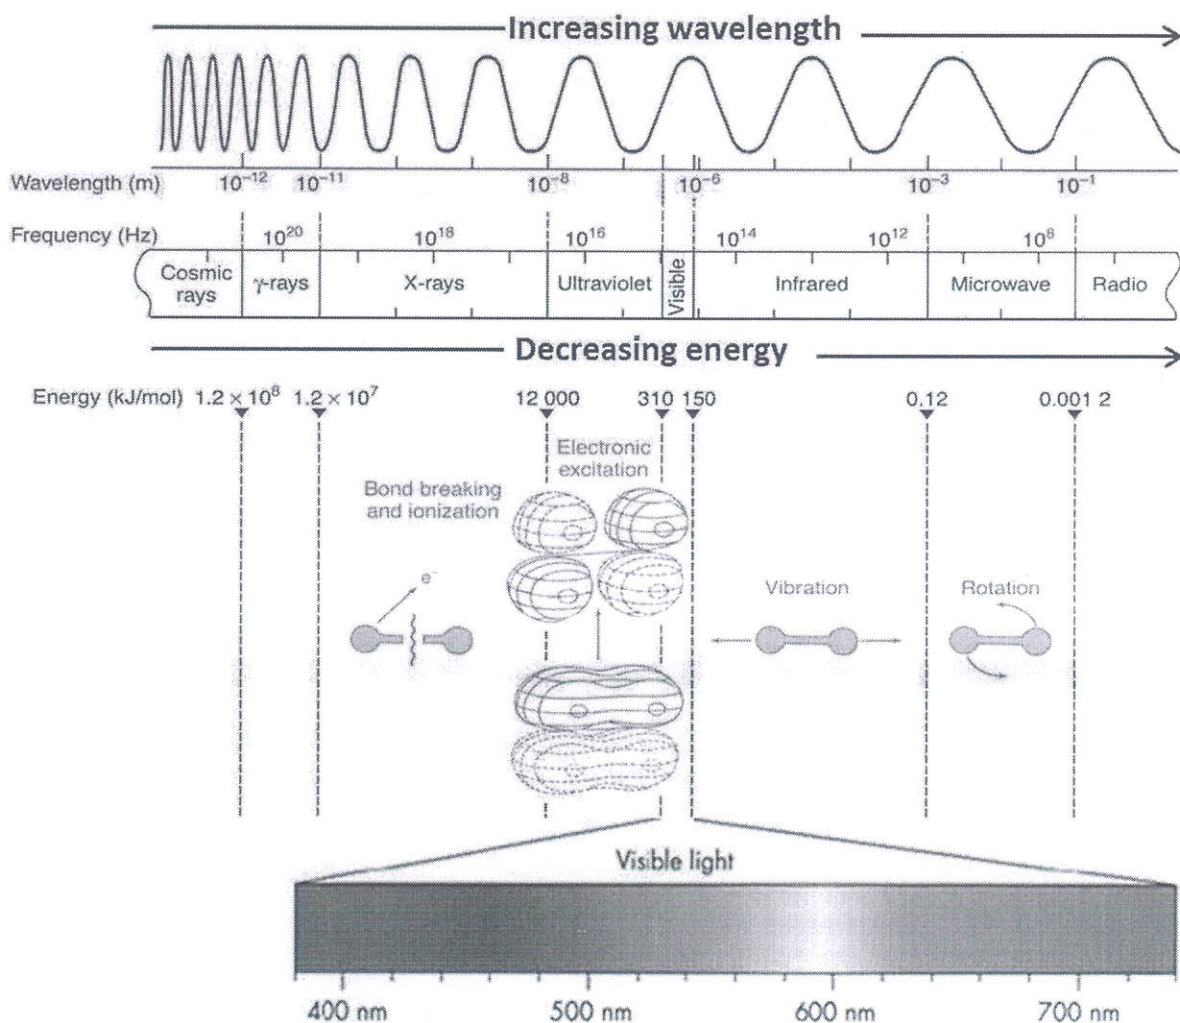

Fig.3: Electromagnetic radiation of different frequencies or wavelengths
- The various regions of electromagnetic spectrum are set out (Table:1 & Fig.3) & are labeled either according to the wavelength/ wave no. range used, or according to the type of the molecular energy levels involved, e.g. UV (electronic) spectra, IR (vibrational) spectra or RF (NMR) spectra.